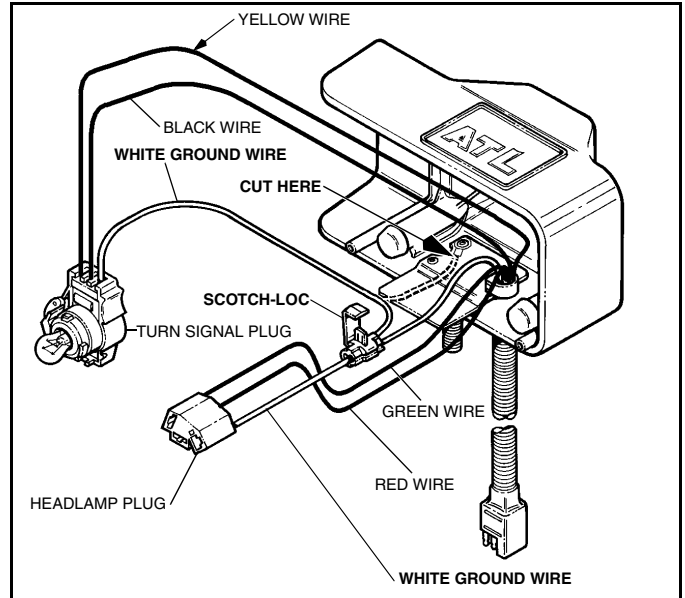

Figure 8
3. Cut white ground wire from Turn Lamp Holder at riveted connector on base of Lamp Housing. (See Figure 8)
4. Use Scotch-Loc® connector to attach white wire from turn lamp to white wire on Head Lamp. (See Figure 8)